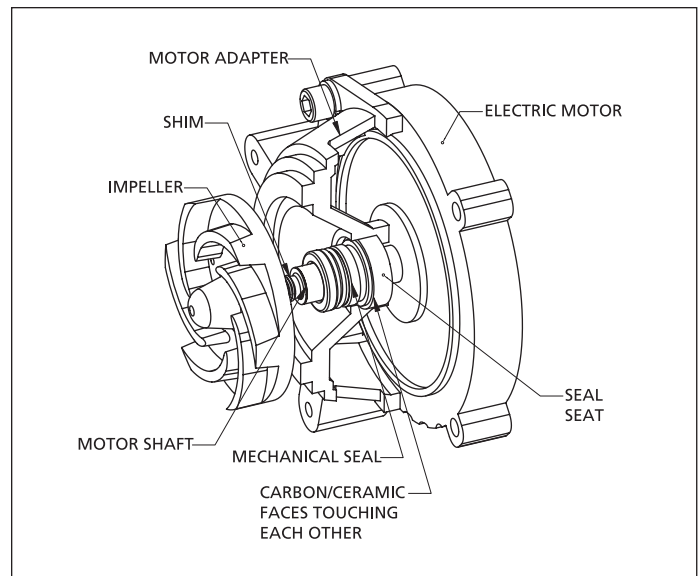

Figure 7 - Seal and Impeller Installation
5. Wet the inside rubber portion of the new seal (Ref. No. 5) with a light coating of soapy water. Slide seal onto the motor shaft with the sealing surface (carbon) facing the seal seat (see Figure 7). This completes seal installation.